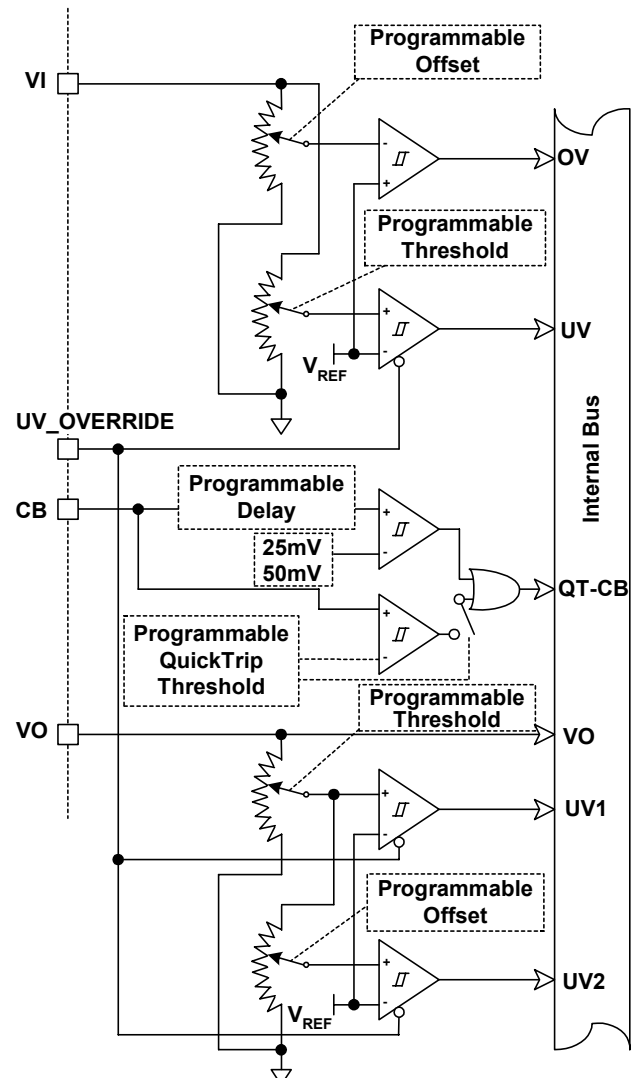
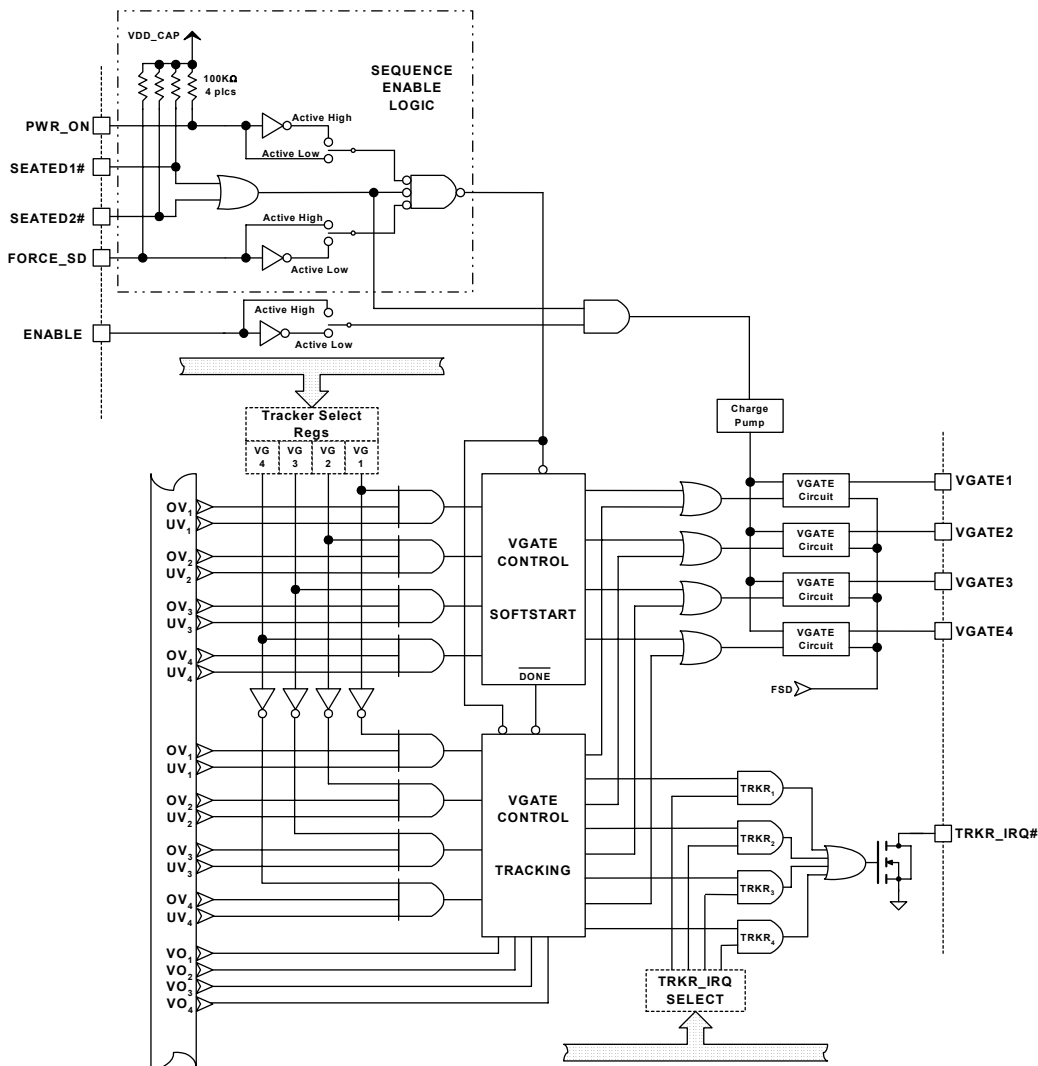
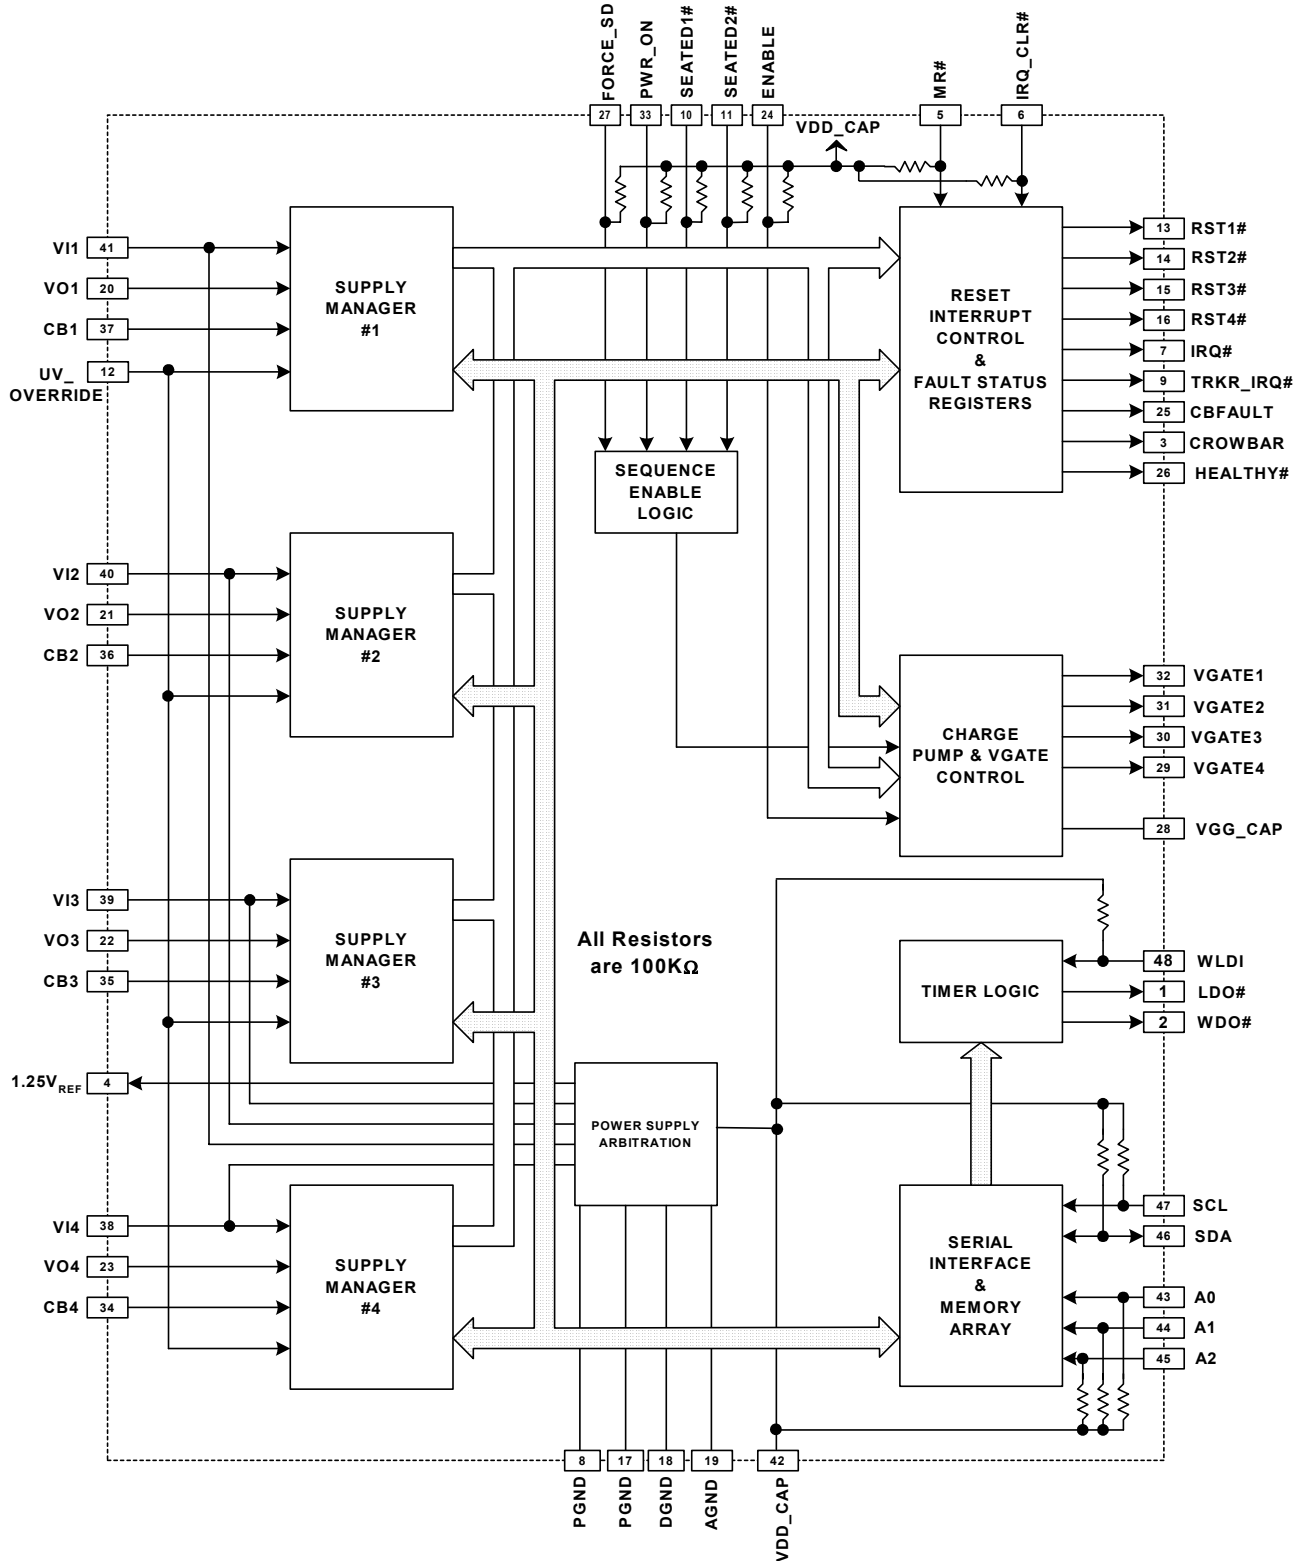

Figure 1. Supply Manager Schematic.
Figure 4. Charge Pump and VGATE Control
Figure 7A. SMT4004 Internal Block Diagram.
The SMT4004 has four distinct programmable power supply managers and associated circuitry (See Figure 7A). The managers are individually programmable and can operate independently or together with the other managers. Each manager monitors the bus and card-side voltages and current for that supply (Figure 1). The VI pin is the bus-side input that connects to two comparators to monitor under-voltage (UV) and over-voltage conditions (OV). The threshold for the UV detector is programmable in 20mV increments, from 0.9V to 6.0V. The OV detector is programmable in 4% increments of the UV settings, from 120% to 244% of the UV settings. The OV threshold is an offset from the UV sensor and the offset varies as the UV threshold; if UV is set to 0.9V then OV can be set from 1.08 to 2.2V.
The VGATE outputs control the gate voltages of external N-channel MOSFETs. Each MOSFET separates the bus and card-side voltages. The VGATE outputs control the card-side slew rates during the power-on/off interval. The VGATEs are turned on when their controlling inputs meet either softstart conditions or when tracking conditions are met so the MOSFET card-side voltages track. The manager inputs (Figure 1) and the control inputs (Figure 4) control the VGATE outputs.
The VGATE control blocks (Figure 4) are the logic functions controlling the VGATE outputs. All inputs to these blocks are used to enable the VGATE outputs to drive the external MOSFETs.